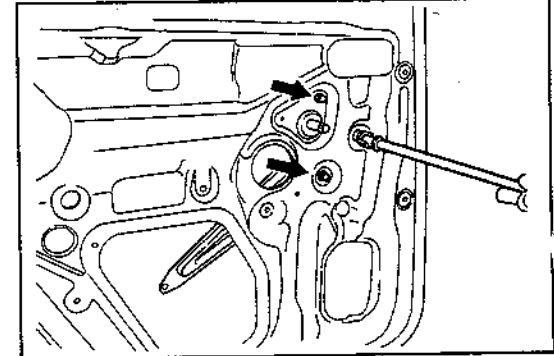

Fig. 9-161
- (1) Apply MP grease to the sliding sections.
- (2) Install the power window motor in the rear door regulator assembly. (Power window-equipped vehicle only)
- (3) Install the rear door window regulator assembly in the rear door. (See Fig. 9-161.)